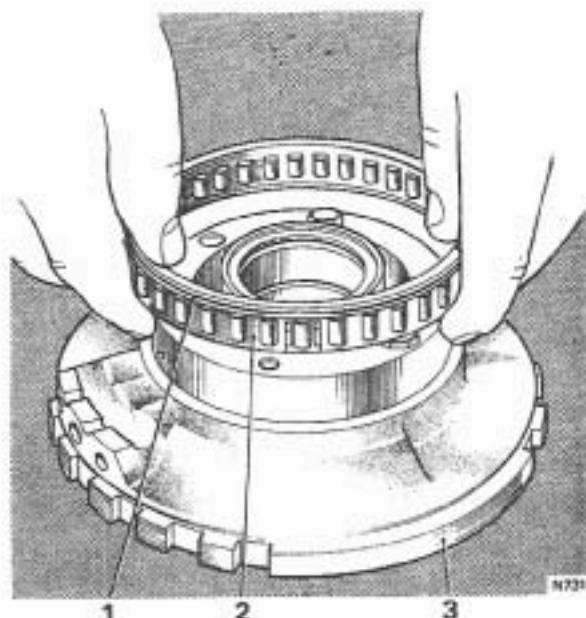

FIG. T281 FITTING THE REAR SPRAG TO THE CENTRE SUPPORT (SPRAG CLUTCH)
25. Using the rear sprag fitting tool RH 7971 (J-21367), fit the rear sprag assembly onto the centre support inner race with the bronze drag strip uppermost (see Fig. T281).